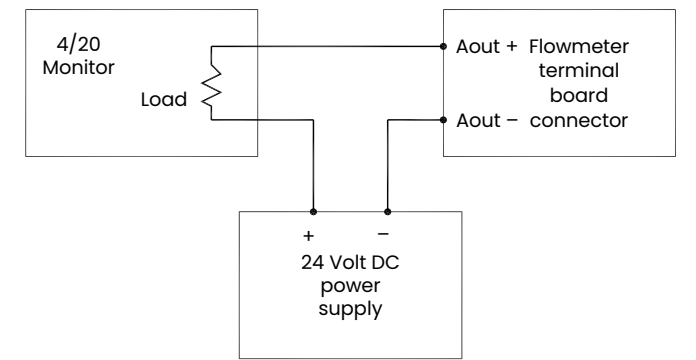
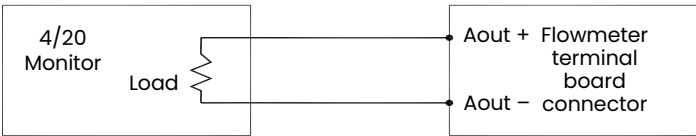

Figure 27: Analog output passive wiring
Figure 28: Analog output active wiring
3. Locate the 26-pin terminal block (**TB2**) shown in Figure 30 on page 28, and wire the I/O terminal as indicated on the label inside the wiring access cover (see Figure 13 on page 31 and Figure 29 on page 16). For a wiring diagram see Figure 27 on page 14 or Figure 28 below.